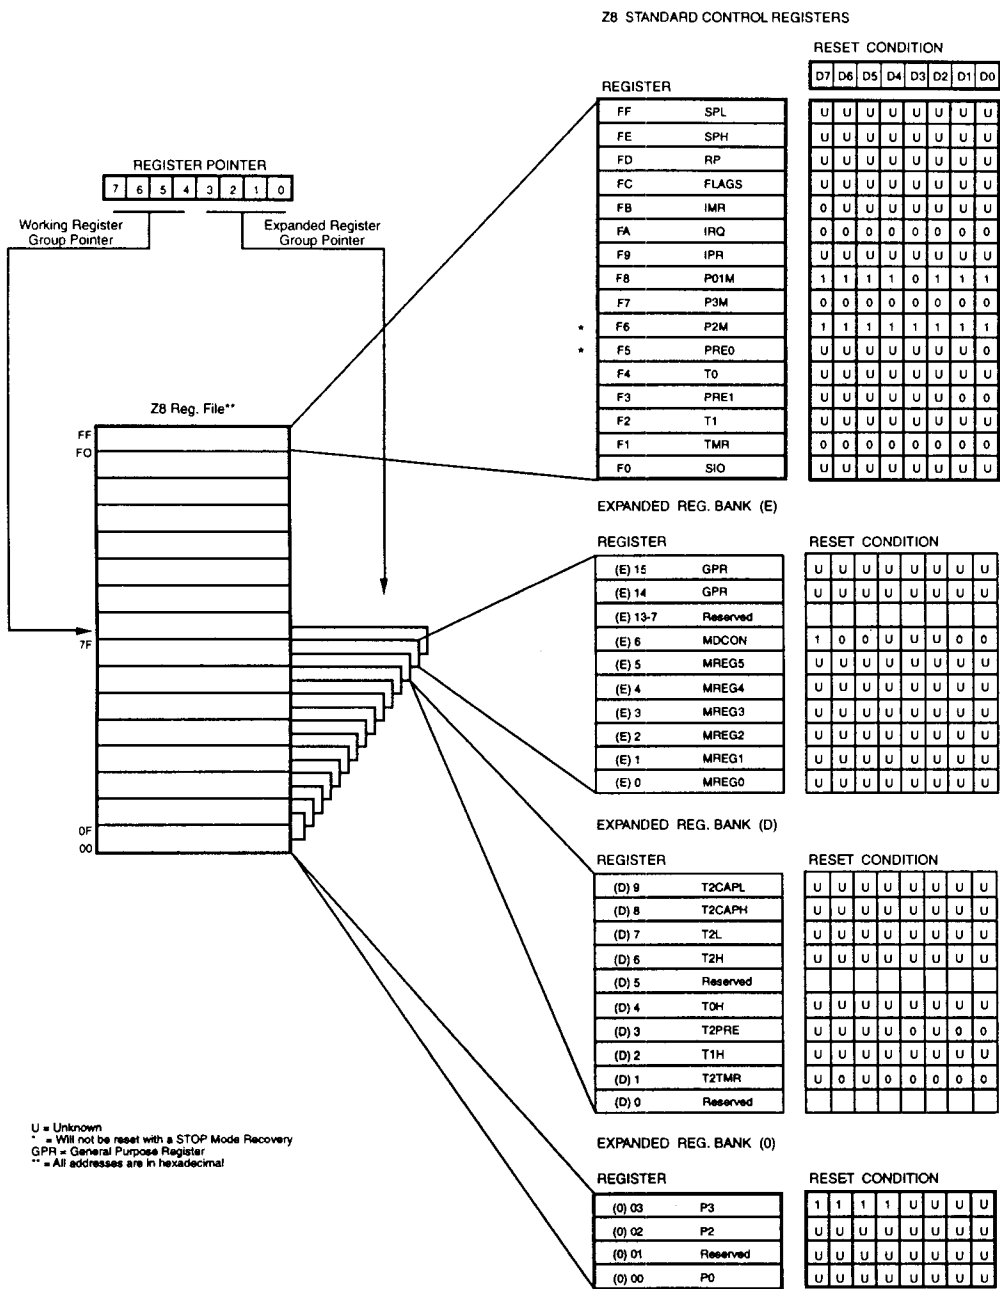
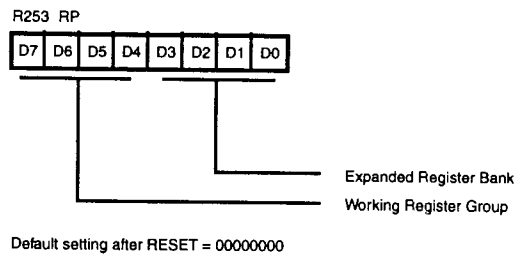

Figure 13. Register File
Figure 14. Register Pointer Register
**Expanded Register File.** The register file has been expanded to allow for additional system control registers, and for mapping of additional peripheral devices along with I/O ports into the register address area (Figure 13). The Z8 register address space R0 through R15 has now been implemented as 16 groups of 16 registers per group. These register groups are known as the ERF (Expanded Register File). Bits 7-4 of register RP select the working register group. Bits 3-0 of register RP select the expanded register group (Figure 14). The registers that are used in the multiply/divide unit reside in the Expanded Register File at Bank E and those for the additional timer control words reside in Bank D. The rest of the Expanded Register is not physically implemented and is open for future expansion.